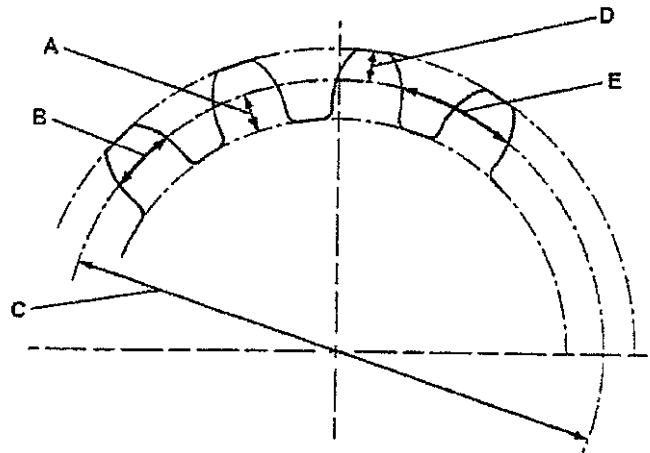

FIGURE 1
1.3 **Gear tooth terms of Figure 1:** (5)